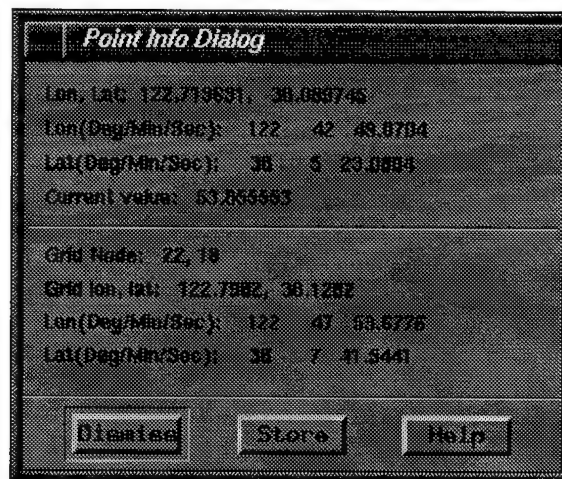

Figure 22 – Point info Dialog window of the Pre-Processor
9. Save time-series locations by clicking on or near a grid-point which pops up a 'Point info dialog' window (Figure 22). Click on the 'store' button.